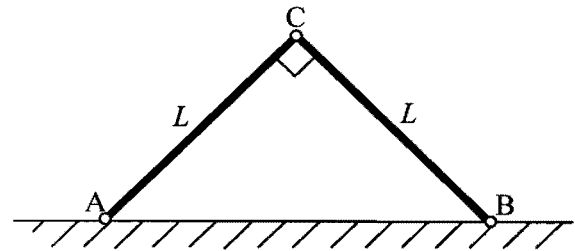

Fig. 1
- † 1. Draw a displacement diagram to find the horizontal and vertical components of the displacement of joint C for the truss shown in Fig. 1 for each of the following sets of bar extensions: